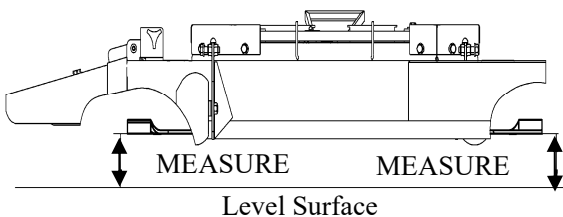

Fig. 17
- Position left blade in the side to side position and measure from the outside blade tip to the level surface (Refer to Fig. 17).